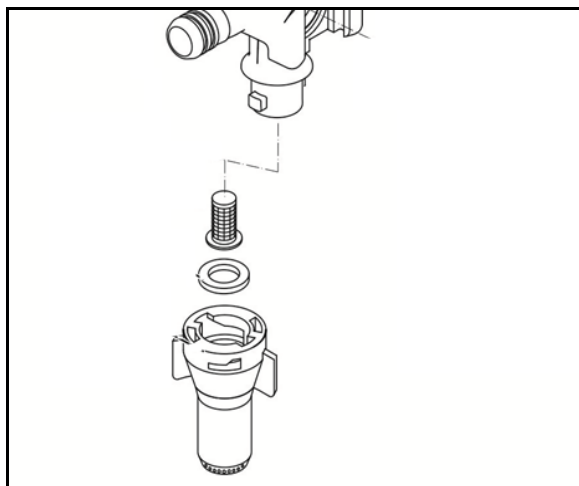

Fig. 126
2. Remove the pressure filter (Fig. 126/1) and clean with water.